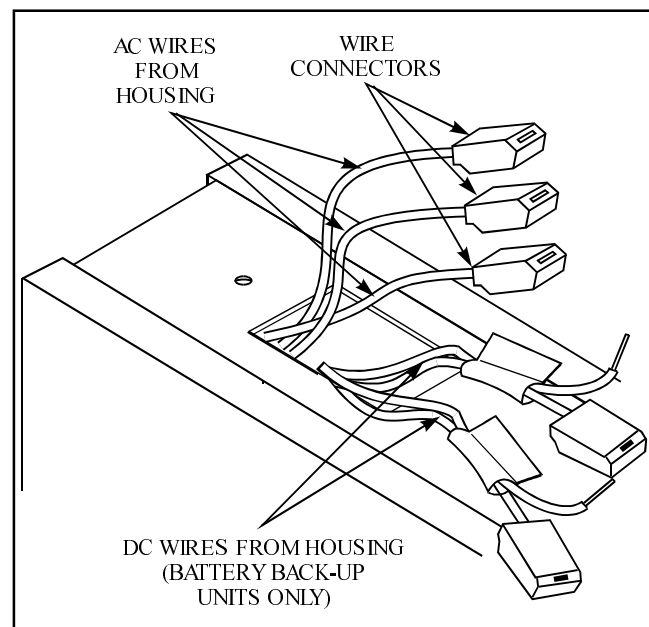

Figure 3
11. Refer to Figure 3. Using the push-on wire connectors, connect the ac wires from the housing to the incoming ac feed. Connect black wire to 120 V supply, (orange wire to 277 V supply), the white wire (neutral) to white, and the green wire (ground) to green. Make sure that the wires are secure and that no bare wire is exposed.